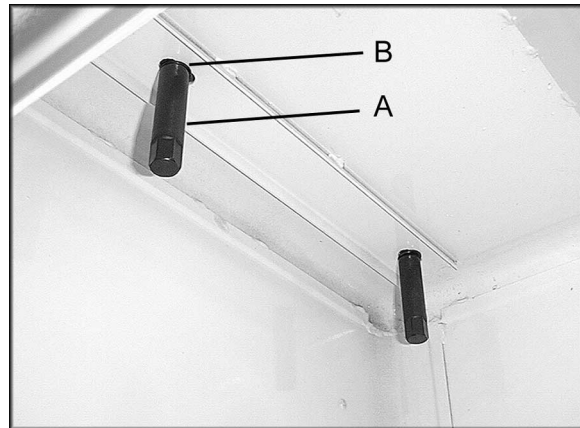

Figure 2
3. Attach bed assembly to stand with two 3/8" lock bolts and lock washers (Fig. 2). Hand tighten only at this time.